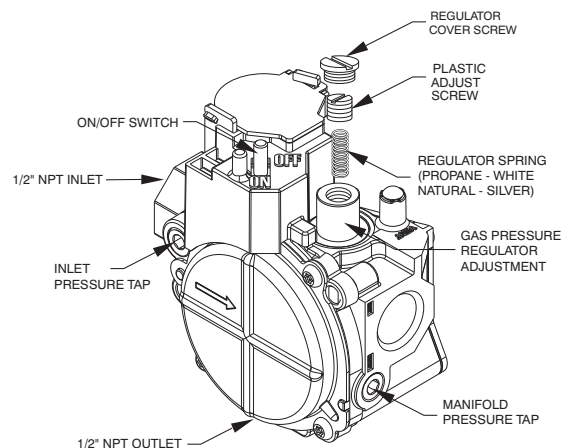

Fig. 11 - Single-Stage Gas Valve
16. Remove regulator cover screw from the gas regulator (see Fig. 11). Save regulator cover screw.
17. Using a screwdriver, remove the plastic regulator adjust screw from the gas regulator (see Fig. 11). Save plastic regulator adjust screw.
18. Remove regulator spring (silver) from the gas regulator (see Fig. 11). Discard regulator spring.
19. Install propane gas regulator spring (white) shipped with this kit. (See Fig. 11).
20. Install plastic adjust screw into the gas regulator, turn clockwise 13.5 turns (see Fig. 11).
30. Fire unit and verify proper ignition and proper sequence of operation (Table 6). See Table 4 for proper manifold pressure setting for your unit. Adjust the gas valve setting by turning the plastic adjustment screws clockwise to increase pressure and counter-clockwise to decrease pressure. Refer to Table 7 for required rated heating input rates. Replace regulator cover screws when finished (see Fig. 11).